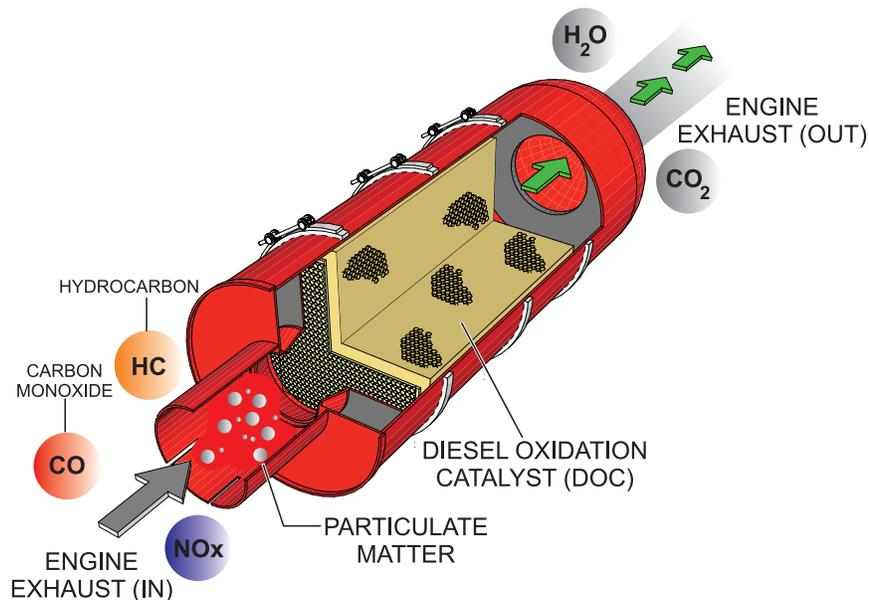

Figure 78. Diesel Oxidation Catalyst (DOC)
The DOC device (Figure 78) helps filter out large amounts of harmful nitrogen oxides (NO_x) and particulate matter (PM) which are emitted by diesel engines. These exhaust emissions pose serious environmental and health risks. It is important to maintain and service the DOC emission safety device on a periodic basis.